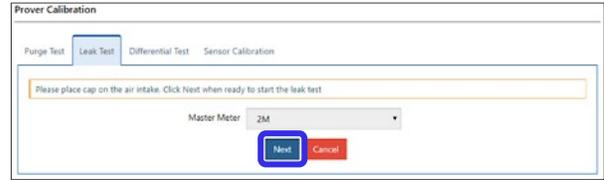

Figure 101: Cap the air intake and start leak test
8. When you are ready to start the leak test, click **Next** (Figure 101).